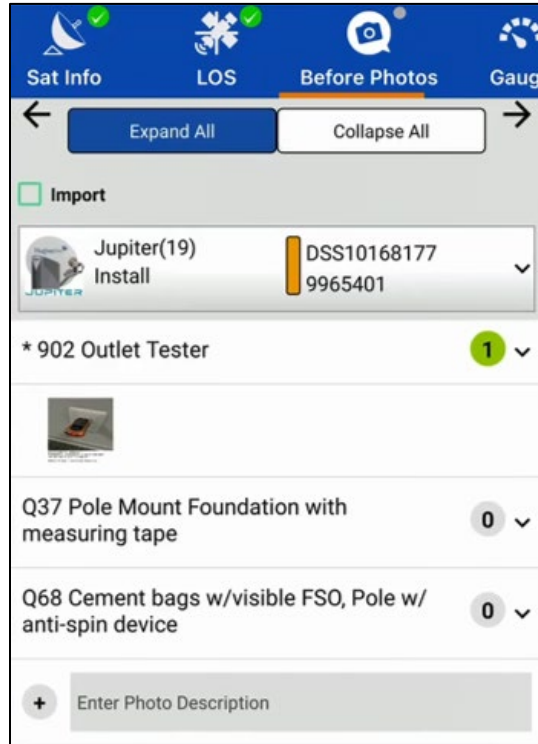

Figure 42: Before Photos step after the photo has been taken
- OASIS returns you to the main screen of the Before Photos step (Figure 42).
- A thumbnail of the photo you just took appears below the item (as in Figure 42). It is tagged with the SAN, FSO, installer ID number, time, date, latitude, and longitude.
Figure 42 depicts a standard installation, so the photos marked with gray circles are not applicable. The photos marked with gray circles would be mandatory if the order was for a pole mount installation.